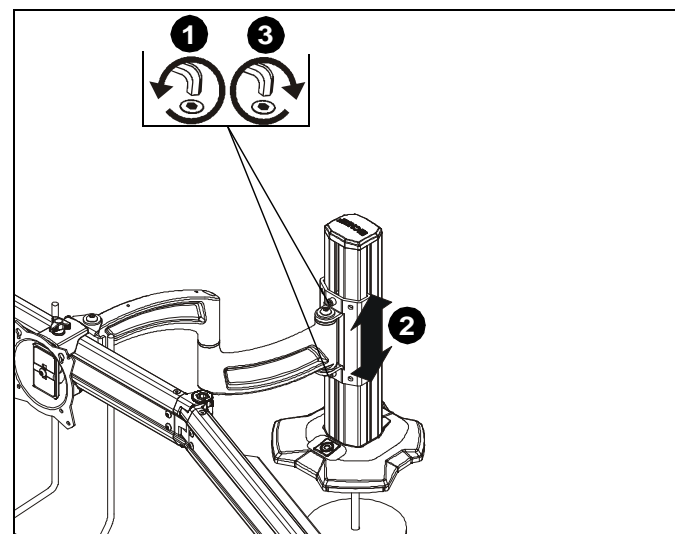

Figure 19
1. Loosen 1/4-20 x 1/2" socket head carriage screws (B1) holding column arm (Z) to column (CC). (See Figure 19)
2. Adjust column arm to desired height. (See Figure 19)
3. Tighten 1/4-20 x 1/2" socket head carriage screws (B1) to lock column arm's position. (See Figure 19)